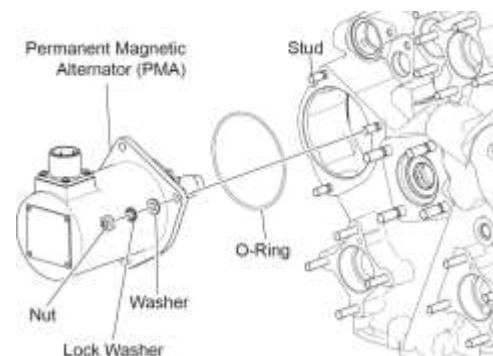

Figure 48
- (1) Remove the three nuts, lock washers, and washers (Figure 48) that attach the PMA to the accessory housing. Discard the lock washers.
- (2) Remove the PMA from the accessory housing.
- (3) Remove and discard the O-ring from the PMA mating surface.
- (6) Install a new O-ring (Figure 48) in the groove of the PMA mating surface.
- (7) Align the holes in the PMA flange with the three studs in the accessory housing as shown in Figure 48.
- (8) Install the PMA by meshing the PMA gear with the idler gear in the accessory housing.
- (9) Attach the PMA to the accessory housing with the three nuts, new lock washers, and washers (Figure 48).
- (10) Torque the nuts in incremental steps to a final torque of 96 in.-lb. (11 Nm).